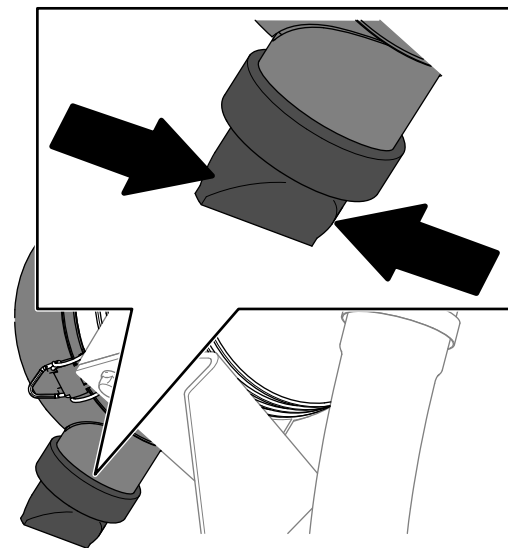

Figure 109
5. Squeeze the dust-ejector valve (Figure 109).